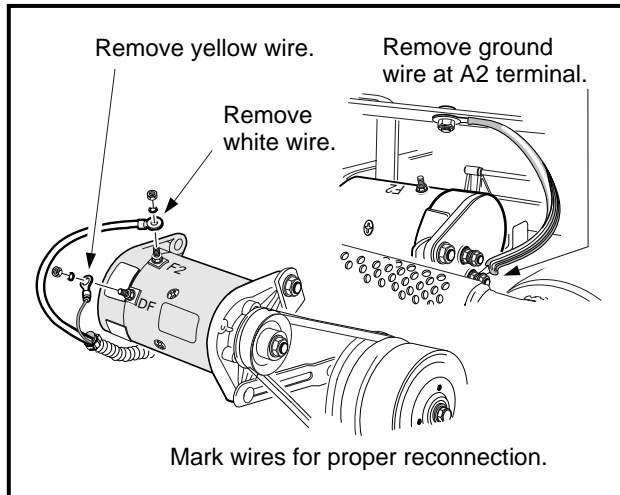

Figure 16-16 Generator Wires
- 3.8. Mark for proper reconnection and then disconnect the 6 gauge white wire (F2 post), 6 gauge black ground wire (A2 post), and 16 gauge yellow (DF post) from starter/generator (**Figure 16-16, Page 16-9**).